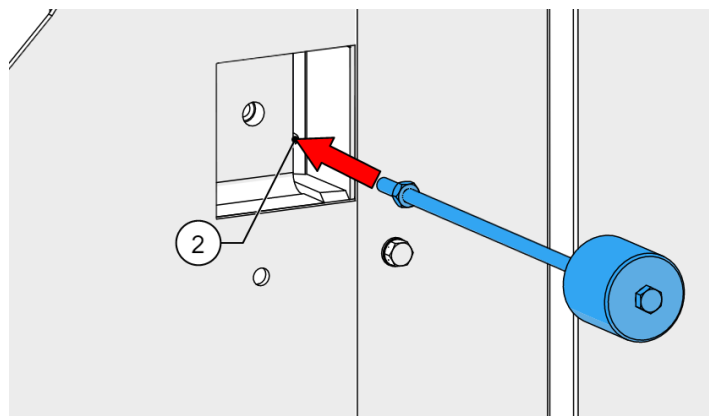

Figure 57 - Slide hammer
8. Insert a suitable slide hammer into the M8 hole (2, Figure 57).